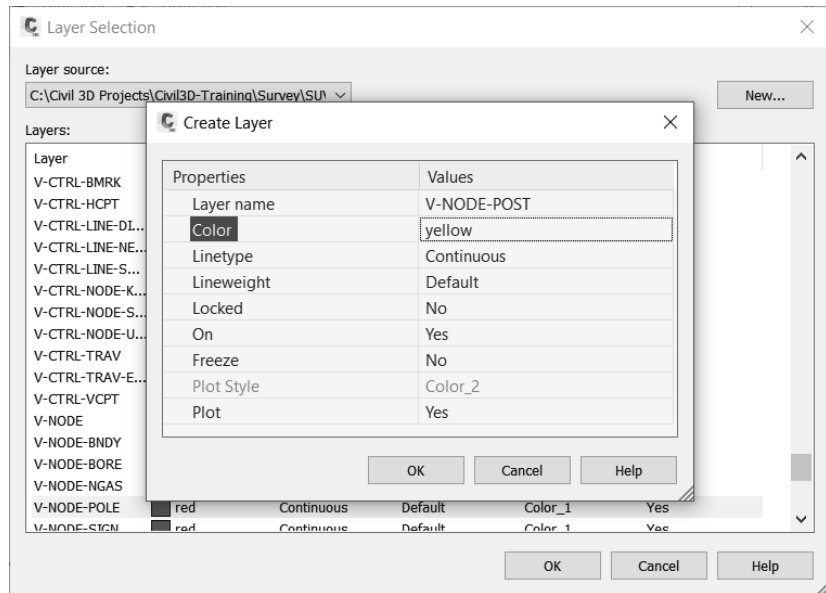

Figure 2–30
11. For the *Layer name*, type **V-NODE-POST**, and then set the *Color* to **yellow**, as shown in Figure 2–30. Click **OK** to exit the Create Layer dialog box. Click **OK** to exit the Layer Selection dialog box.